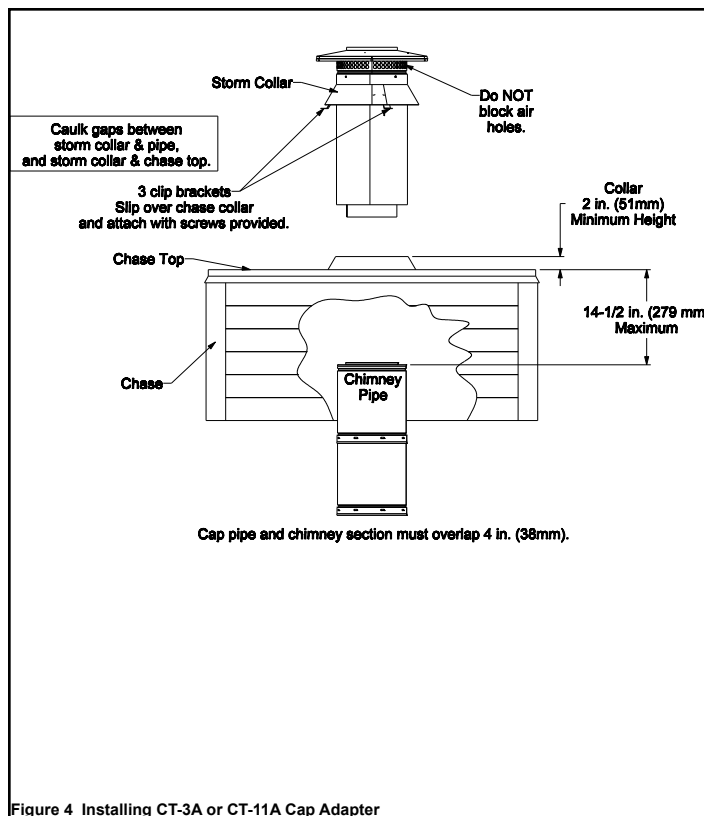

Figure 4 Installing CT-3A or CT-11A Cap Adapter
- The uppermost chimney section must terminate no more than 14 1/2 in. (368 mm) below the top of the flashing collar on the chase top. See Figure 4 for additional details.